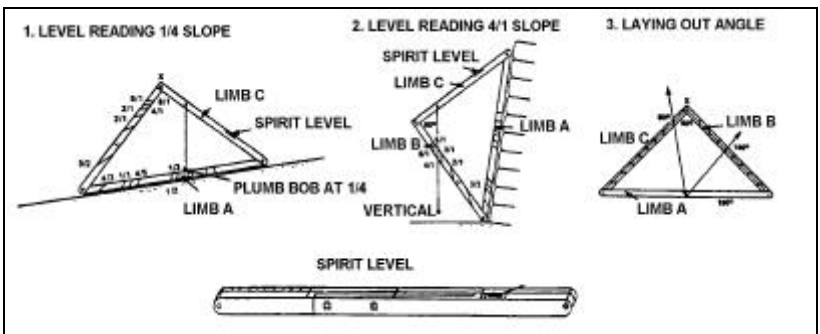

Fig 11-1-2 Field Levels
6. **Field Level.** (Fig 11-1-2). The field level is a simple piece of equipment used by Field Engineers.
- a. to measure a slope or gradient, fix the level with limb A along the slope or gradient and read off the figure cut by the plumb-bob line as shown in Fig 11-1-2 a and b.
- b. to measure an angle, use as shown in Fig 11-1-2 c.